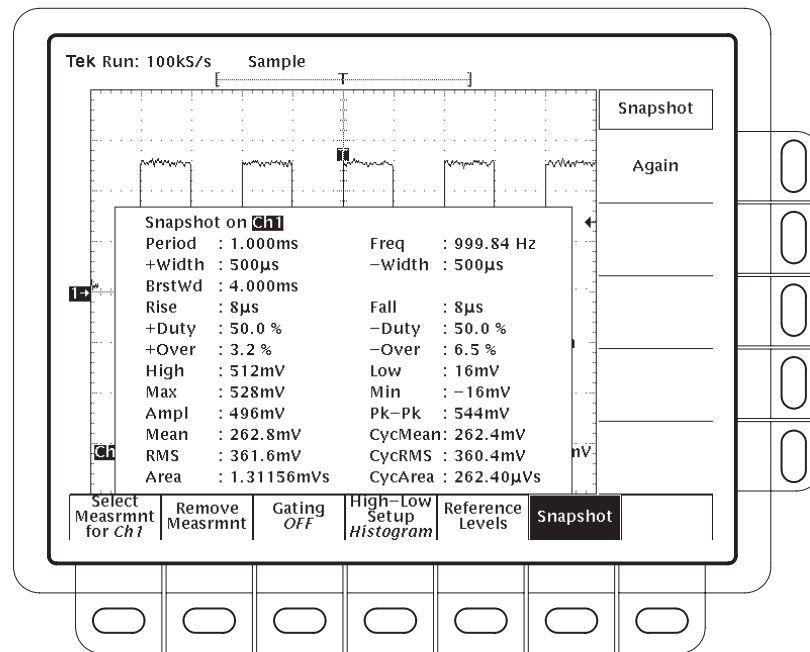

Figure 2-17: Snapshot of Channel 1
1. Press **Snapshot** (main) to pop up a snapshot of all available single waveform measurements. (See Figure 2-17).